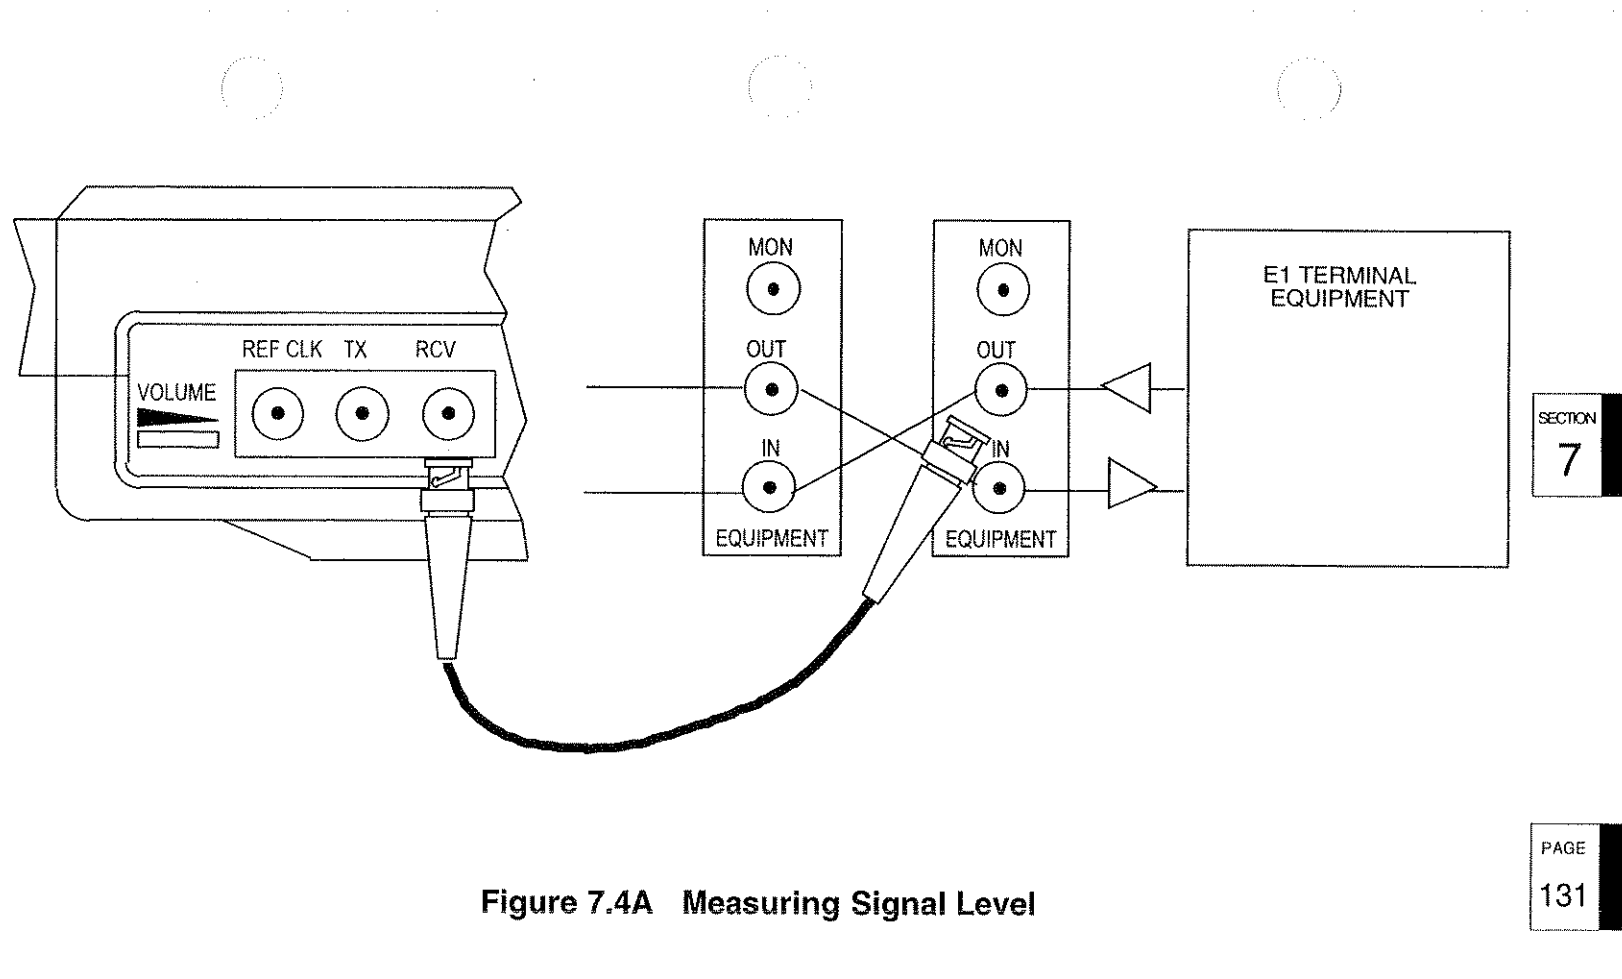

Figure 7.4A Measuring Signal Level
- 3) Plug the set into the circuit as shown in Figure 7.4A. Press the HISTORY key to acknowledge the blinking